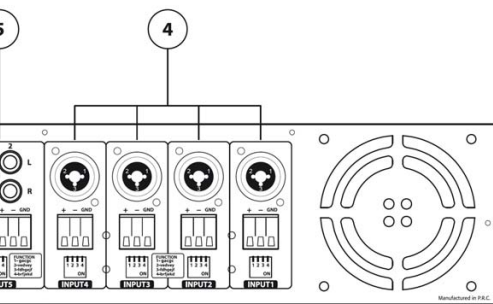

fig. 2
ons (fig.2 ref.13) unscrew to remove the unit cover.
16Ω) (fig.2 ref.13).
oltage (fig.2 ref.13).